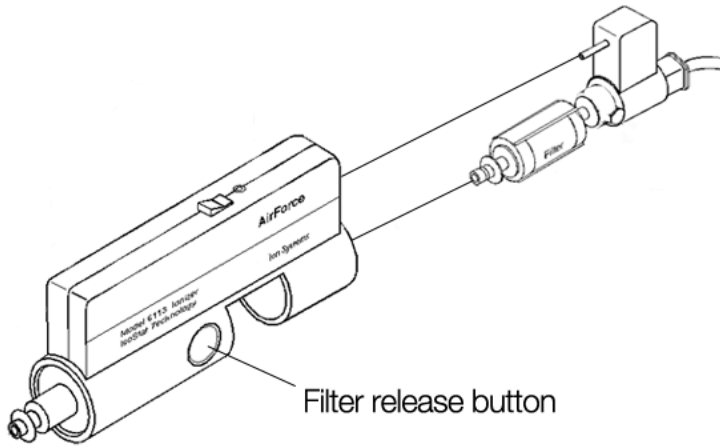

Figure 9. Connecting the Hose and Filter
2. Connect the hose and filter to the console. Press the filter release button on the front of the console to lock it down. Push the fitting containing the filter all the way into the opening in the console until it latches with a click. It fits only in the correct orientation. The small plastic fitting on the end of the filter must align with the metal guide coupling in the console. You may have to wiggle the filter slightly while inserting it. See **Figure 9. Connecting the Hose and Filter.**